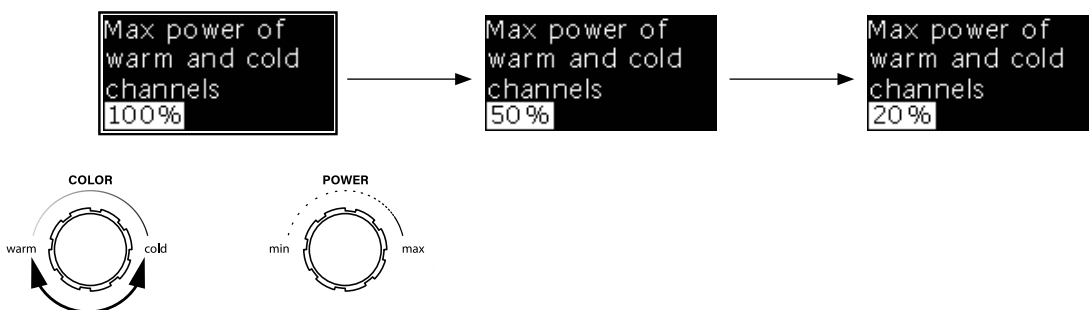

Fig. 40
2. You can turn the left encoder and toggle between the menu options. Pressing confirms the selected parameter (Fig.40).